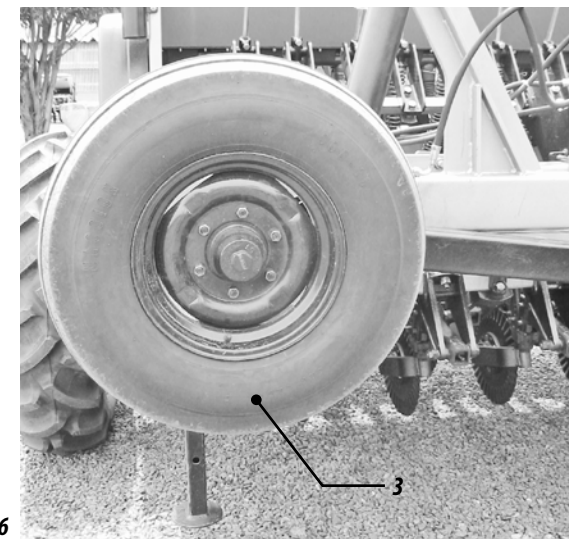

Figure 36
03 - Operate the transport wheelset (3) to lower the seed drill (key #1 on the panel), figure 36.